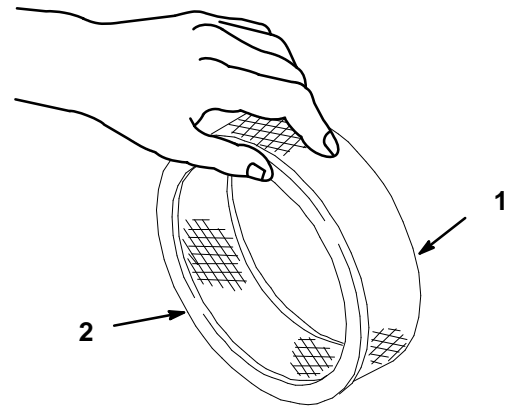

Figure 14
- A. Lightly tap the element on a flat surface to remove dust and dirt (Fig. 14).